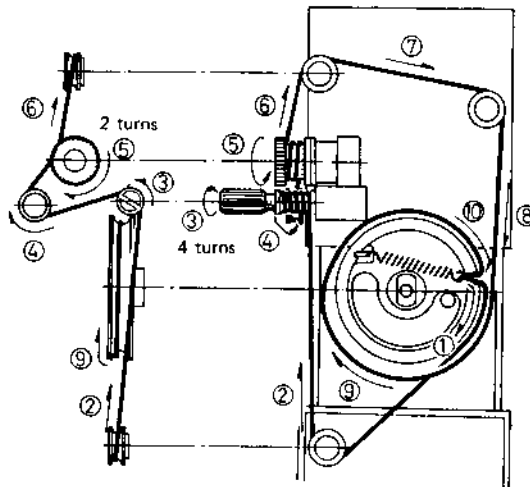

Fig. 5
4. String the cord in accordance with the arrow marks. (Refer to Fig. 5)